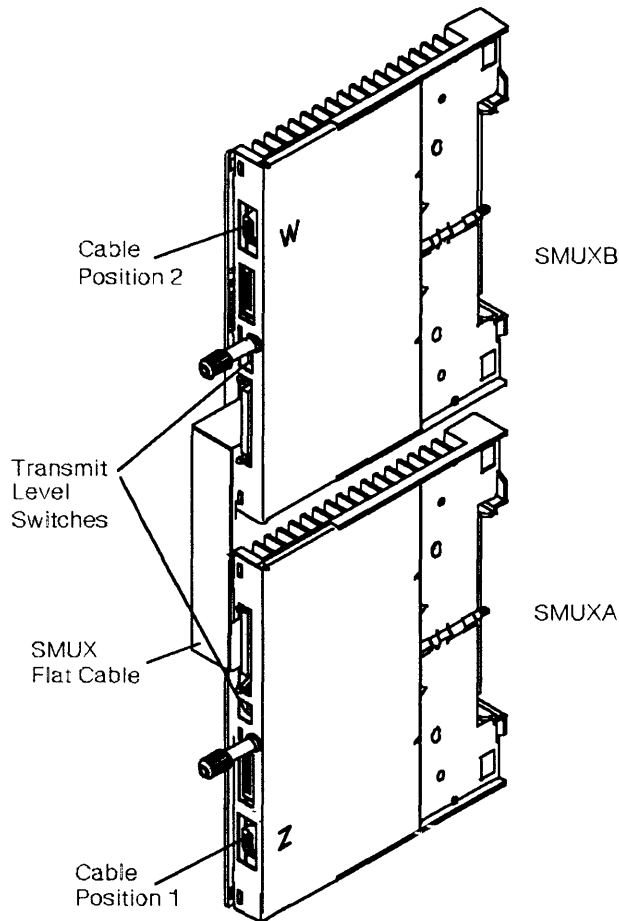
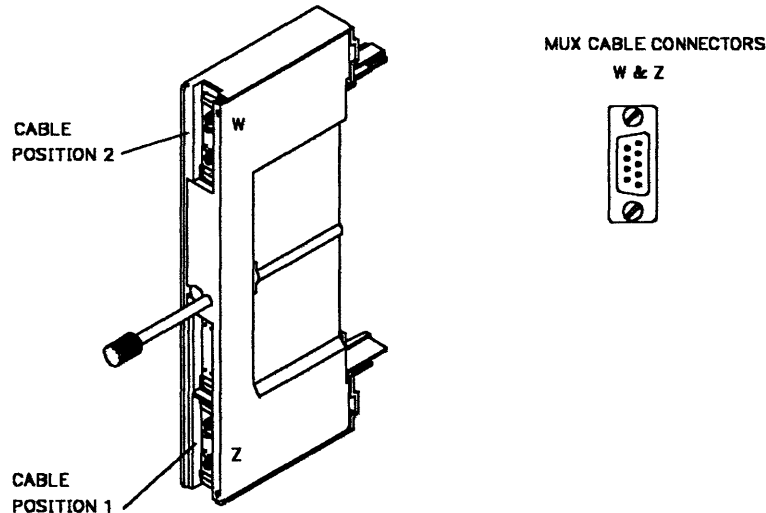

Figure 1-15. SMUX Cards. (This shows the SMUXA and SMUXB cards when two LIB2 boards are installed. Only SMUXB is used if a single LIB2 is present.)
Figure 1-17. DMUX Card
- Step 4. ____ Locate the transmit level switches on each SMUXA/SMUXB card installed (see Figure 1-15). Set the transmit level switches to the correct value for your country according to the table in Figure 1-16.
- Step 1. ____ Remove the DMUX card cover on the left of each LIB1 board, and locate the DMUX card in column B of each LIB1 board (see Figure 1-17).
- Step 3. ____ Configure the LA-to-MUX cables according to the 'DMUX or SMUX position' column of *Page YZ 839*. See Figure 1-17 and Figure 1-15 on page 1-12 for the socket locations.